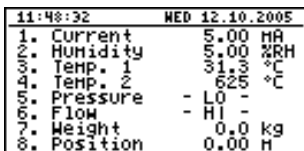

Fig. 6.7. "Channels list" mode (values)
- **"Channels list"** mode (Fig. 6.7, 6.8) enables the measurement results for all active measurement channels to be viewed in numeric or graphic (bar) form.